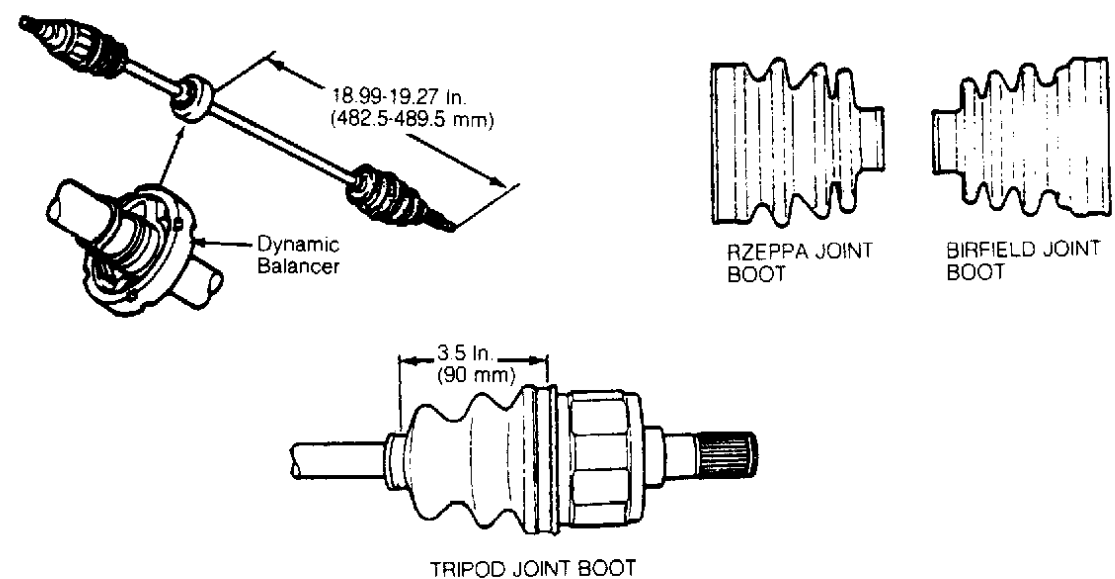

Fig. 3: Measuring & Identifying Axle Shafts & CV Boots
2. Install right side dynamic damper at a distance of 18.99-19.27" (482.5-489.5 mm) from outboard end of axle shaft. Installed length of CV boot should be 3.5" (90 mm). See Fig. 3.